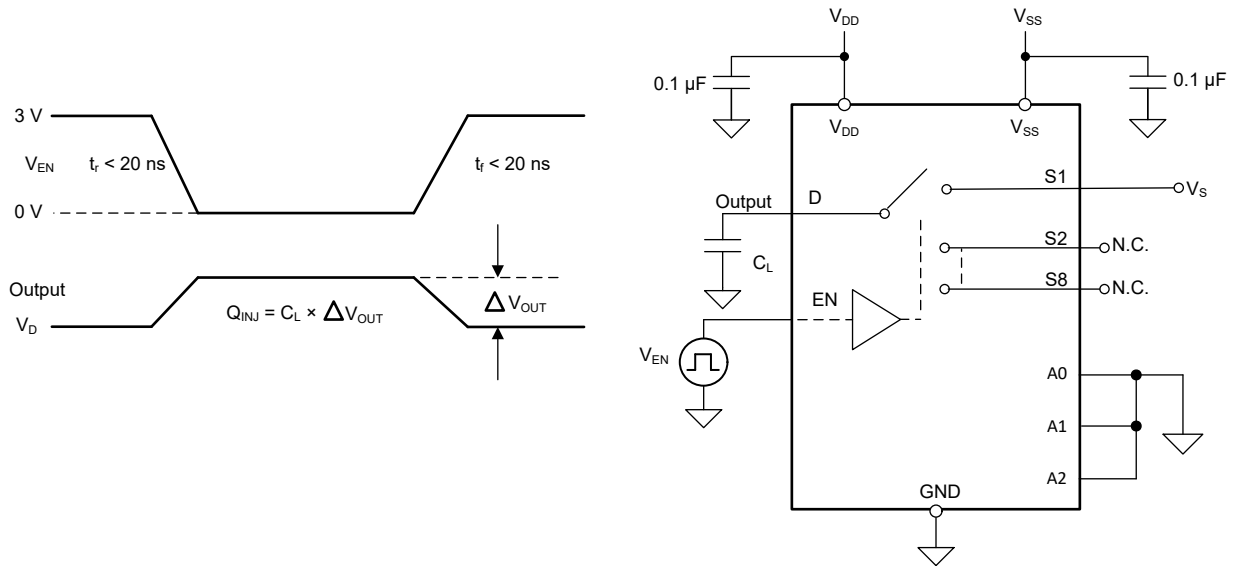

图 8-9. Charge-Injection Measurement Setup
The TMUX7208 and TMUX7209 have a transmission-gate topology. Any mismatch in capacitance between the NMOS and PMOS transistors results in a charge injected into the drain or source during the falling or rising edge of the gate signal. The amount of charge injected into the source or drain of the device is known as charge injection, and is denoted by the symbol  $Q_{INJ}$ . 图 8-9 shows the setup used to measure charge injection from source (Sx) to drain (D).